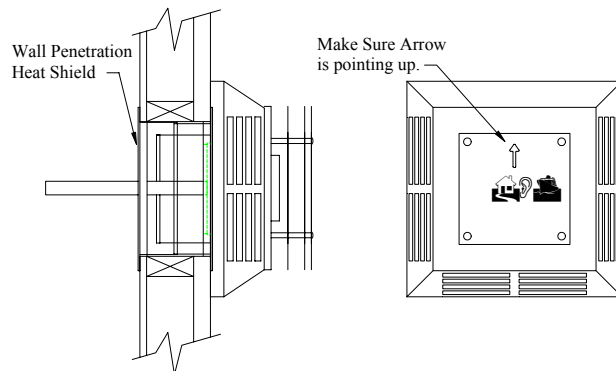

Fig. 16– Penetration Shield
4. Before connecting the horizontal run of vent pipe to the vent termination, slide the Wall Penetration Heat Shield over the vent pipe (see figure 16, 18).